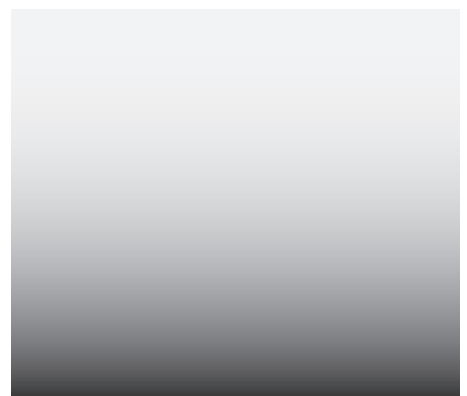

Figure 14
- 1a. Start spraying at the bottom of a masked area and gradually fade into the white at the top. See Figure 14. Do not fade abruptly.